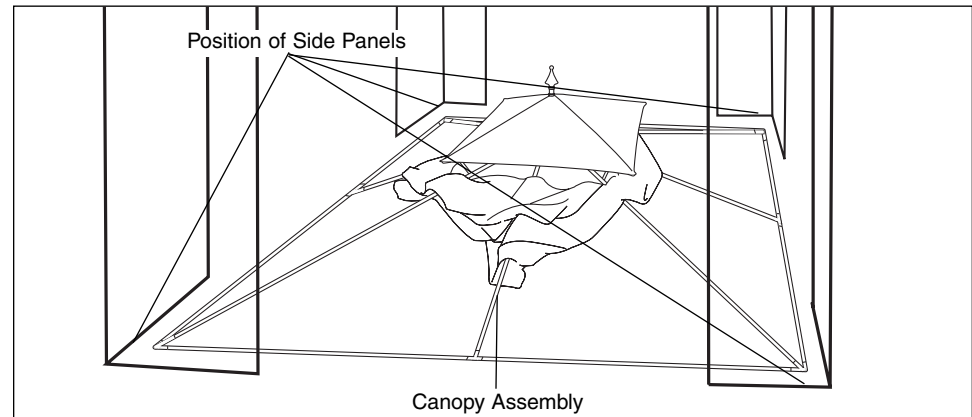

Fig. 12
- Move and position 4 side panel assemblies near to each corner of canopy assembly. (Fig. 12)